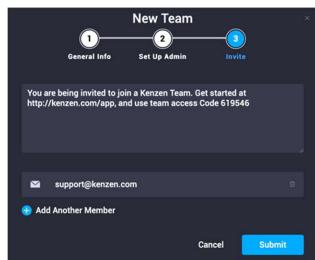

Figure 39: Add Team Members
8. Invite new team members by entering the team members' email addresses. Select **Add Another Member** to add additional email addresses (Figure 39).